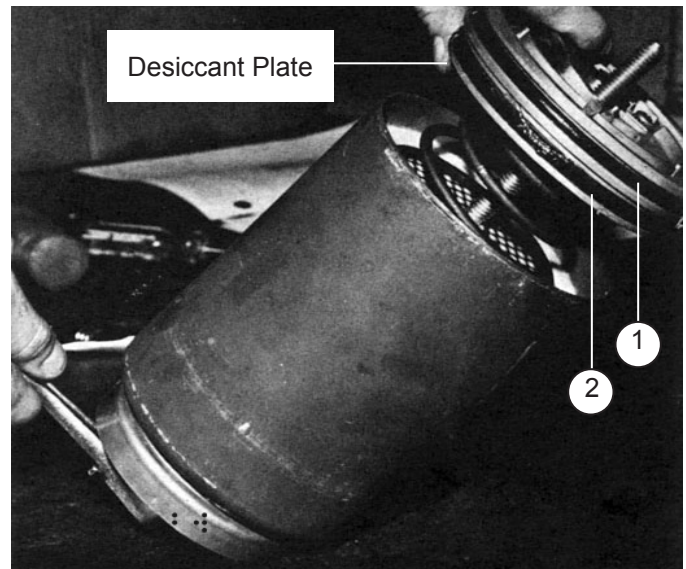

Figure 2–Desiccant Plate Removal
2. Remove the desiccant plate and set it aside. (See Figure 2.)
3. Remove the plate from the desiccant cartridge (6). Return the desiccant cartridge (6) for core credit or discard as a solid waste according to local laws and ordinances.
5. Remove the screw, retainer, and the ball check valve (5). Discard the ball check valve (5).